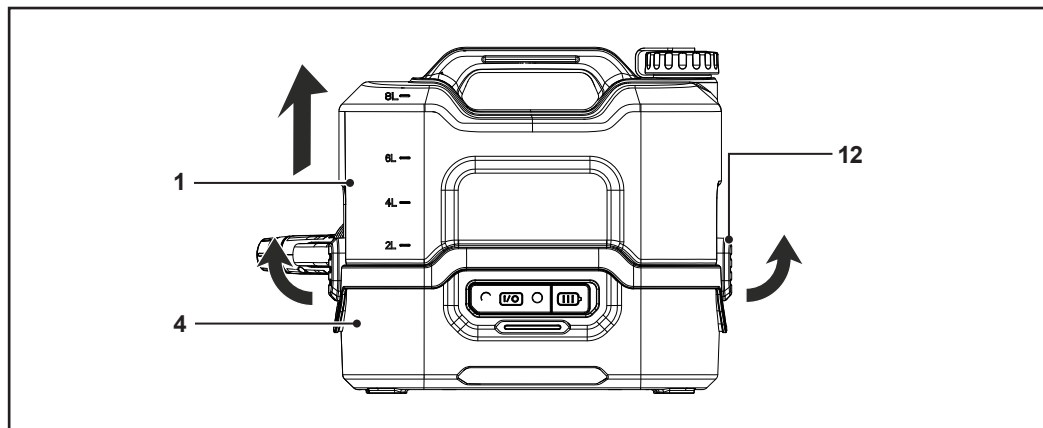

Fig. 2
1. Disengage the locking latches (12) on both sides of the base unit (4) (Fig. 2).
2. Remove the water tank (1) from the base unit (4) (Fig. 2).
3. Unscrew the water tank cap (3) and fill the water tank (1) with clear water up to 8 L.
4. Tighten the water tank cap (3) and wipe away any spills.
5. Take the spray gun (9) out. Make sure that the hose (11) fits into the designated slot to prevent it from being clamped or pinched.
6. Place the water tank (1) onto the base unit (4) and engage the locking latches (12). Ensure that the water tank fits correctly, as it only fits in one orientation with the water level markings facing the front.